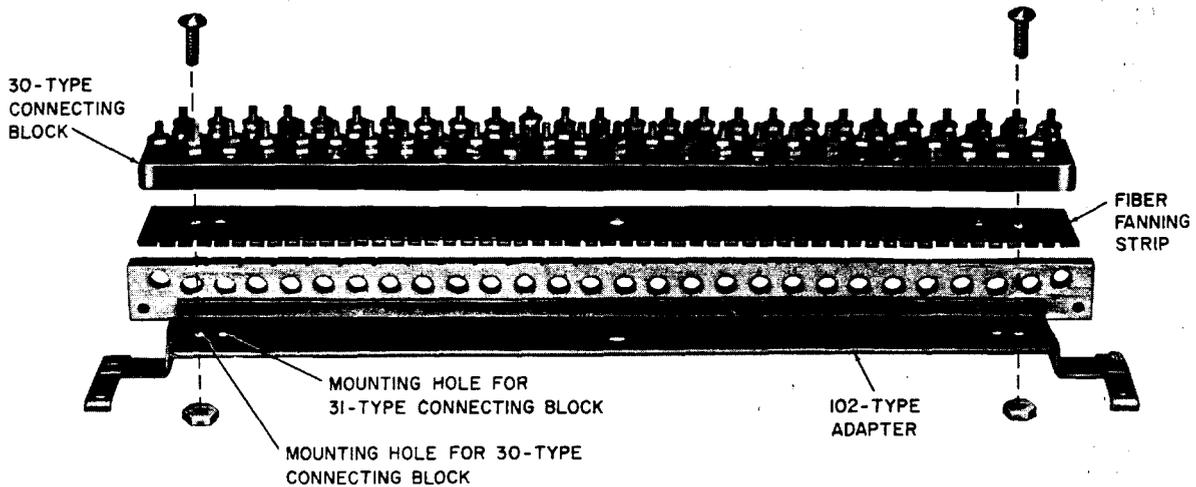

Fig. 3—Assembly of Connecting Block, Fanning Strip, and Adapter
**3.03** Two machine screws, P-210648, and two nuts, P-375850, are furnished with each adapter to secure the connecting block to the adapter. The fiber fanning strip serves to retain the cable or inside wire conductors in the proper positions. (See Fig. 3.)